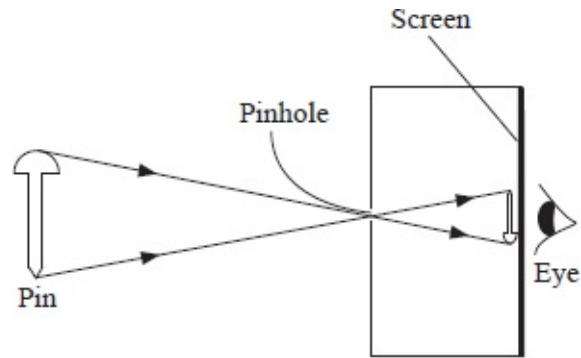

Fig. 8.13: Formation of an image in a pinhole camera
- Set up the camera in a darkened or dimly-lit room with the pinhole facing a brightly-lit object. The object may be outdoors and viewed through an open window or may be an electric lamp, a candle or an illuminated pin, as in figure 8.13.
When the camera is set up with the pinhole facing the brightly-lit object pin, a sharp inverted image of the illuminated pin is seen on the screen, as in figure 8.13.